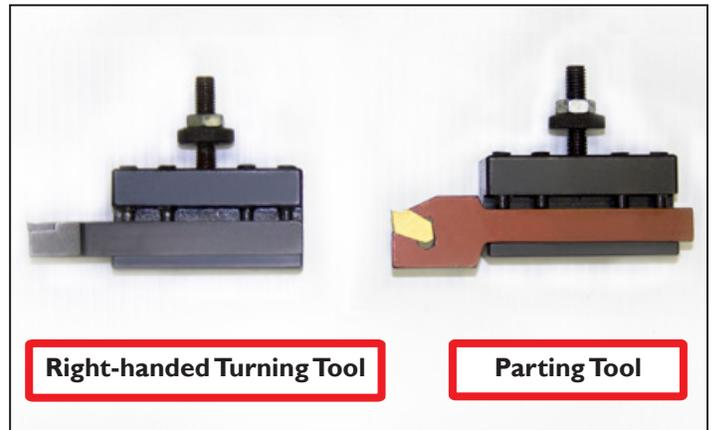

Figure 4.3
Both a right-handed turning tool and a parting tool are required for this first part tutorial (see **Figure 4.3**). Install both tools in quick change tool holders: either turning/facing or turning/boring holders.
1. Using Right-handed Turning Tool (see **Figure 4.3**), install tool into quick-change tool post.